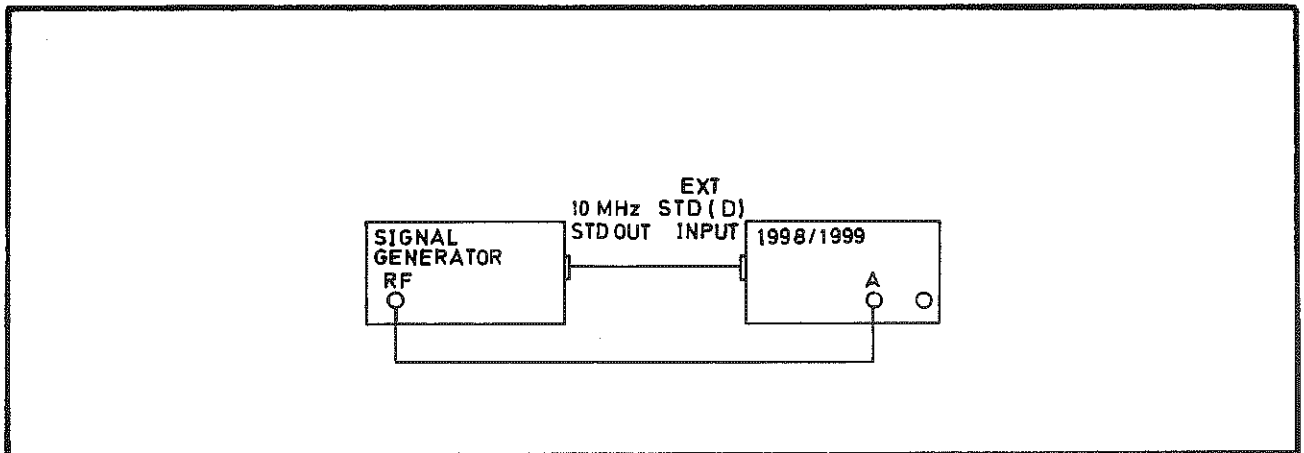

Fig 7.11 Connections for the Channel A Input System Adjustment
- (6) Connect the test equipment as shown in Fig 7.11.
- (7) Set the signal generator output to 10 MHz at a level of 2.6 mV r.m.s.
- (8) Verify that the EXT STD indicator is lit.
- (9) Adjust R19 to obtain the most stable display indication of 10.00 MHz \pm 0.10 MHz with the GATE indicator flashing.